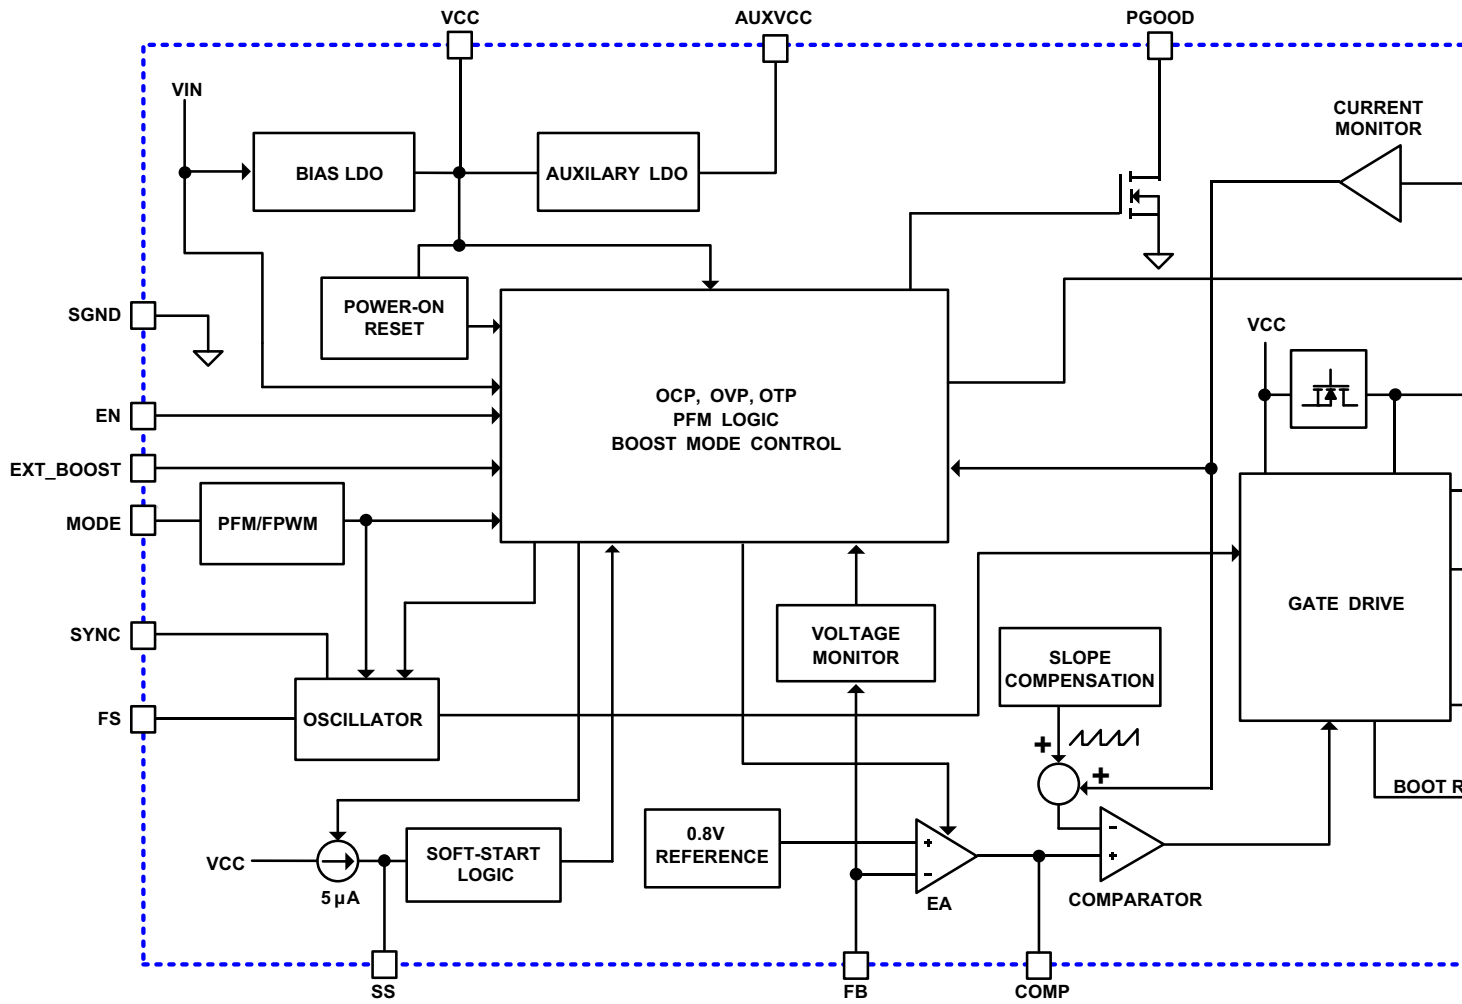

FIGURE 6. BLOCK DIAGRAM
**Electrical Specifications** See Figure 6 and the "Typical Application Schematics" on page 3. Operating conditions unless otherwise noted: VIN = 12V, or VCC = 4.5V ±10%, TA = -40°C to +105°C. Typical values are at TA = +25°C. **Boldface limits apply across the operating temperature range, -40°C to +105°C.**
**Electrical Specifications** See Figure 6 and the “Typical Application Schematics” on page 3. Operating conditions unless otherwise noted:  $V_{IN} = 12V$ , or  $V_{CC} = 4.5V \pm 10\%$ ,  $T_A = -40^\circ C$  to  $+105^\circ C$ . Typicals are at  $T_A = +25^\circ C$ . **Boldface limits apply across the operating temperature range,  $-40^\circ C$  to  $+105^\circ C$ .** (Continued)